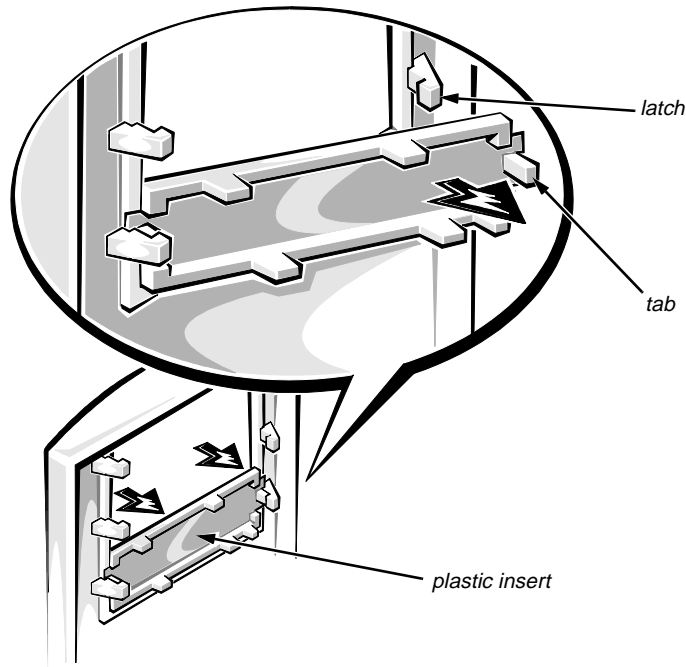

Figure 4-4. Plastic Insert Removal
- 3. Push on the outside of the plastic insert (indicated by the two arrows in Figure 4-4); then twist the sides of the front bezel outward until the plastic insert is released from the latches inside the bezel.**